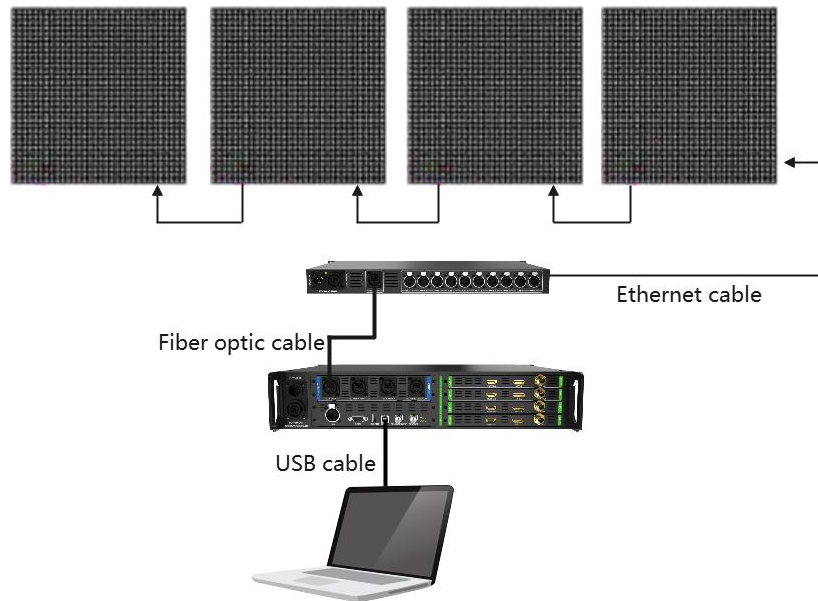

Fig 2.1.1 Device connection topology
Step 1: Cabinets should be connected to the optical fiber transceiver via an Ethernet cable. The optical fiber transceiver and sender are connected with a fiber optic cable. Then connect the transmitter to the computer through a USB cable as shown in Figure 2.1.1.